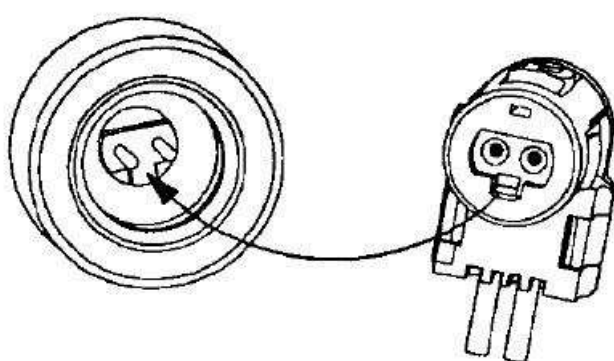
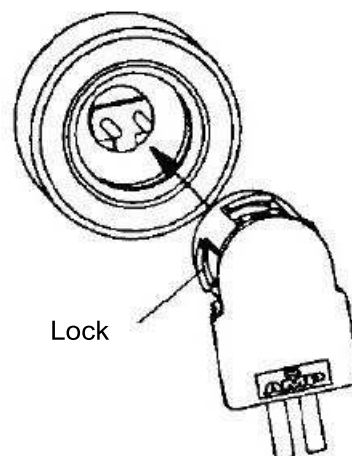

Fig. 24
Fig. 25
- (1) Before insertion, align the connector with the contact pins and the form at bottom of the squib holder (Fig. 24, Fig. 25).